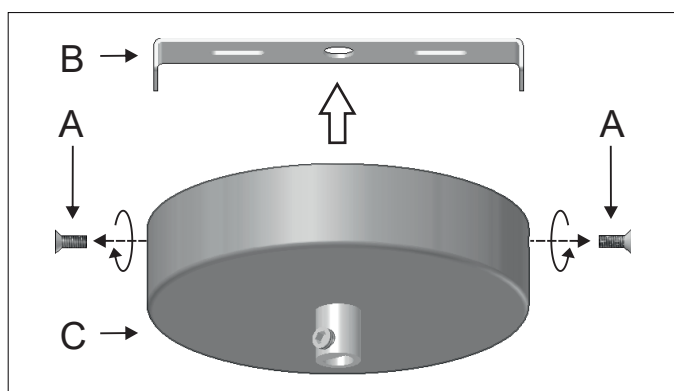

Figure 1
1 - Unscrew the side screws (A) to remove the mounting bracket (B) from the canopy (C). Figure 1.